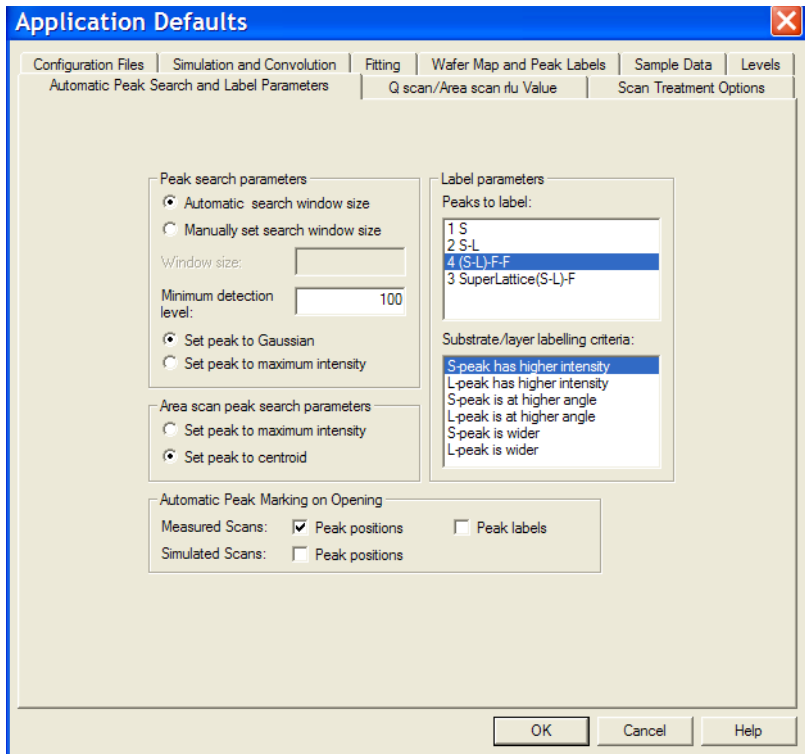

Figure 6-9: The Automatic Peak Search and Label Defaults Tab
- Set all values as shown in Figure 6-9.